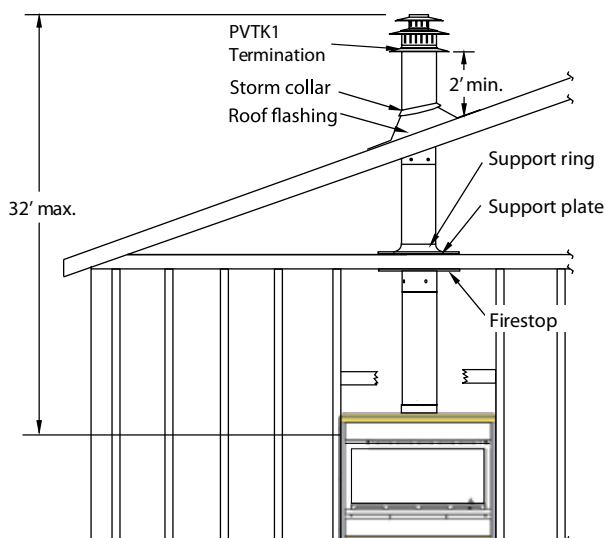

Figure 9. Top vent, Roof mounted termination with no offset in vent run.
- The Vertical termination must be a minimum 2' higher than where the termination exits the roofing materials, (asphalt shingles, cedar shakes, etc). This distance should be measured from the high side of the roof slope where the flue flashing intersects the roofing materials. (see **Figures 9 to 9c \***).